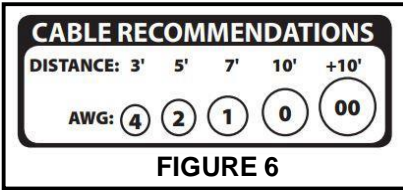

FIGURE 6
5) **WIRING CONNECTIONS:** Ensure power cable is sufficient size and in good condition (See Figure 6). Attach battery cable and starter ignition wire to corresponding post on solenoid (Figure 5). **NOTE:** These starters do not have a post for the “R Terminal” connection. If you are using an electronic ignition, this post is normally not needed. If you are using the factory type points ignition, a diode can be added to the starter to function this circuit (PM Part number #600)